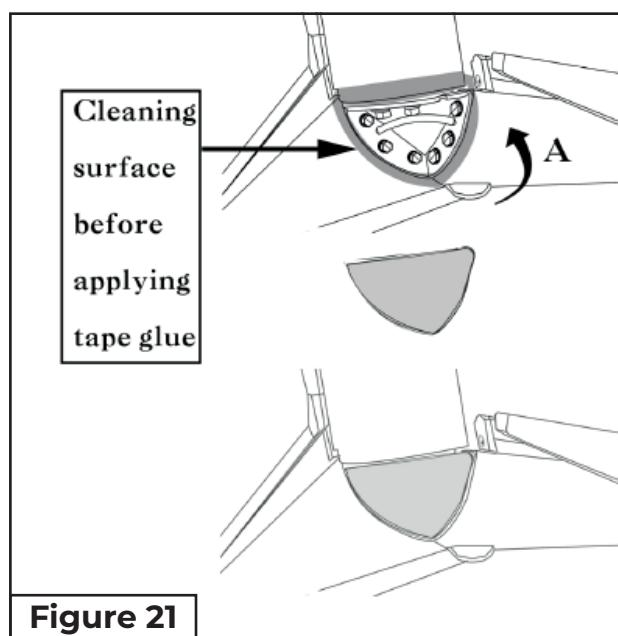

Figure 21
16. Repeat the process in Step 14 to install the corner covers on the rear corners of the canopy assembly (**Fig. 21**).